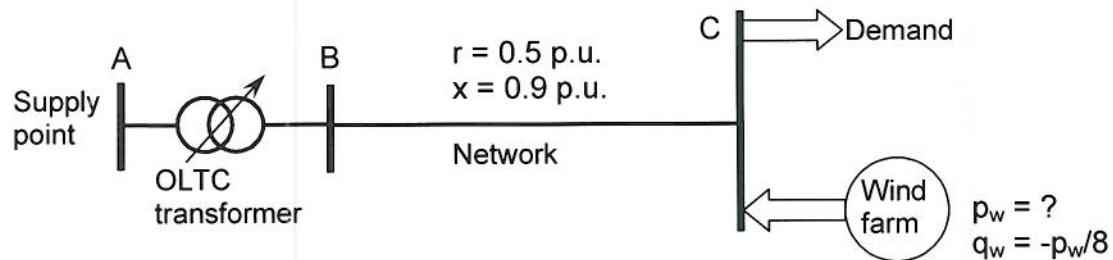

Figure Q5
- (c) Wind farm developer "West Sussex Wind" has applied for a connection of a wind farm to EDF Energy. In order to facilitate this connection, EDF Energy engineers need to investigate the voltage rise effect that might occur on the network presented in figure Q5. The On Load Tap Changing (OLTC) transformer is currently set to maintain the voltage at busbar B at 1.03 p.u. The minimum demand at the connection point (busbar C) is 10% of the maximum demand. As shown in Figure Q5, the wind farm will consume reactive power in proportion to the real power it generates.